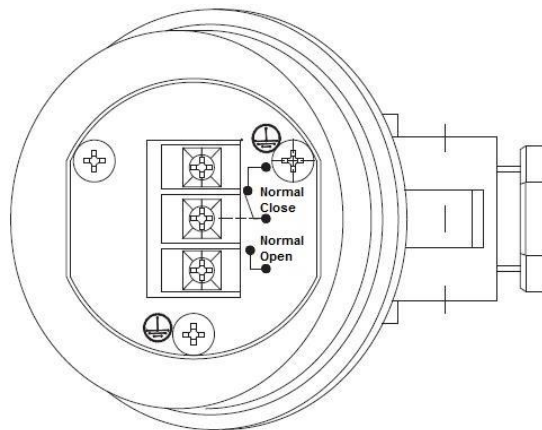

Figure 9 QXB alarm wiring diagram
6.3.3 If the level gauge is equipped with upper and lower limit level alarms, complete the wiring of the upper and lower limit level alarms as shown below: the upper limit is connected to the normally open point, and the lower limit is connected to the normally closed point-Figure 9